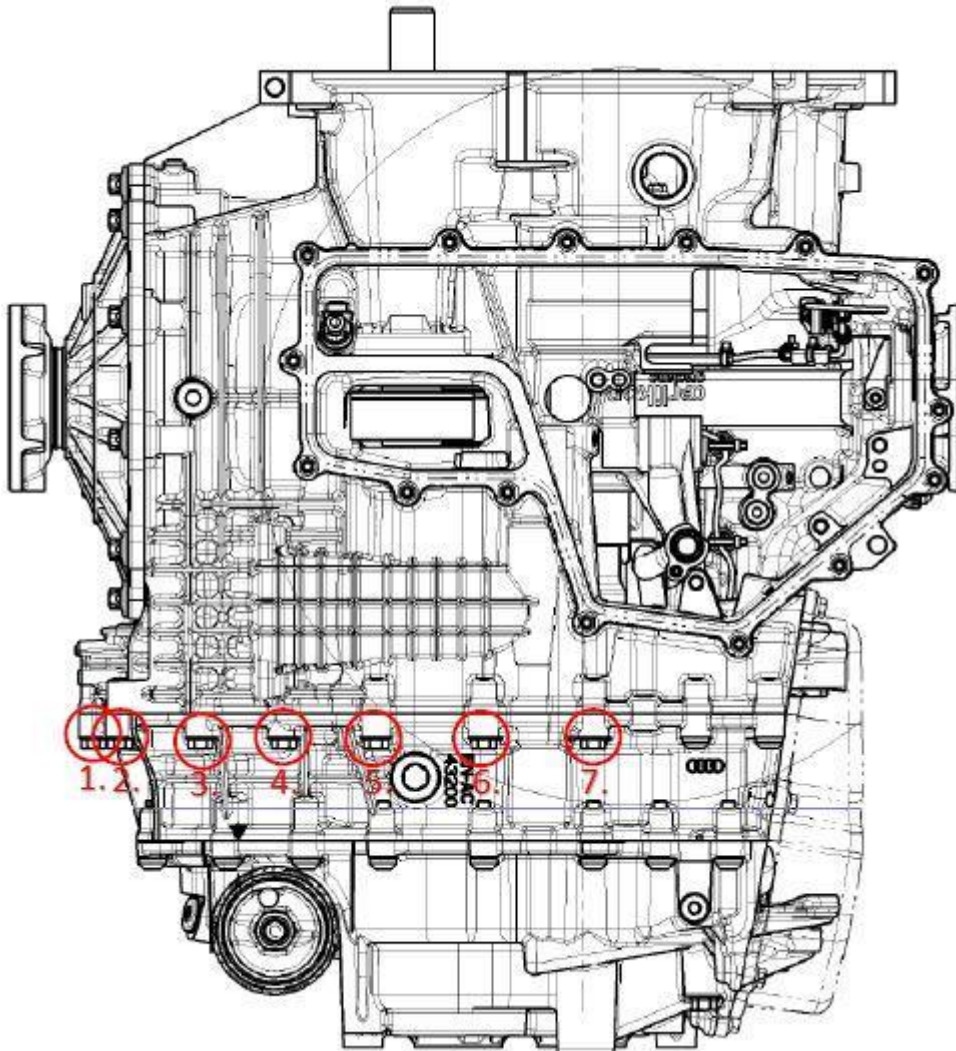

Figure 3. Bolt locations.
7. Check the seven steel bolts (Figure 3) for a torque of 25 Nm. The seven bolts have a hex head with an internal polygon socket (triple square). If one or several bolts do not have the specified torque (25 Nm), document which bolts (1 through 7) were not tightened correctly.